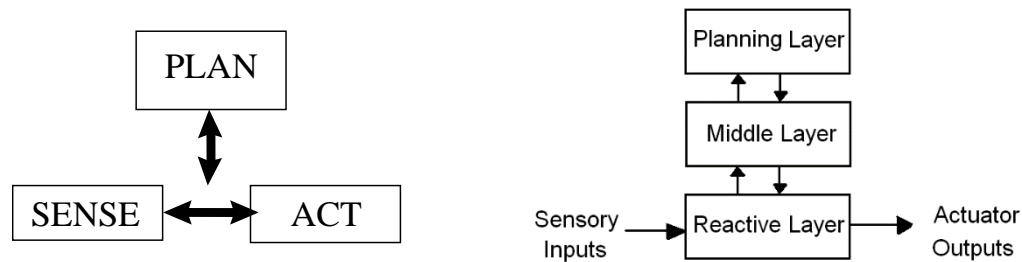

Figure 4: Homing Hybrid Control Architecture
- Next, you will design a complete different architecture for hybrid control. The hybrid control architecture that you will implement to home the robot includes a reactive layer (obstacle avoidance, wall following, move to goal, path update), middle layer (arbitrator), and deliberative layer (current state, path plan back to wall). This architecture is shown in Figure 4. Your code should be written in a modular fashion with functions such that it is evident where the planning, sensing and acting take place. Turn an LED to indicate wall following.